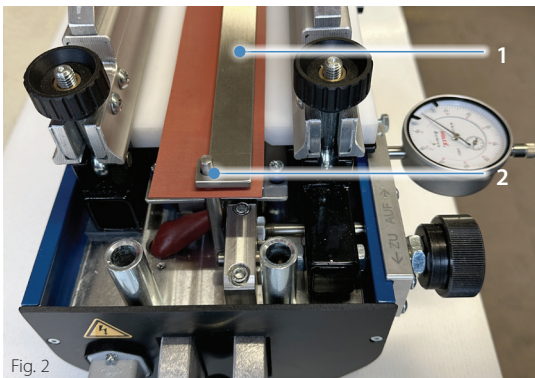

Fig. 2
- Clean the adjustment aid (1) and put it onto the centering bolts (2). (Fig. 2)